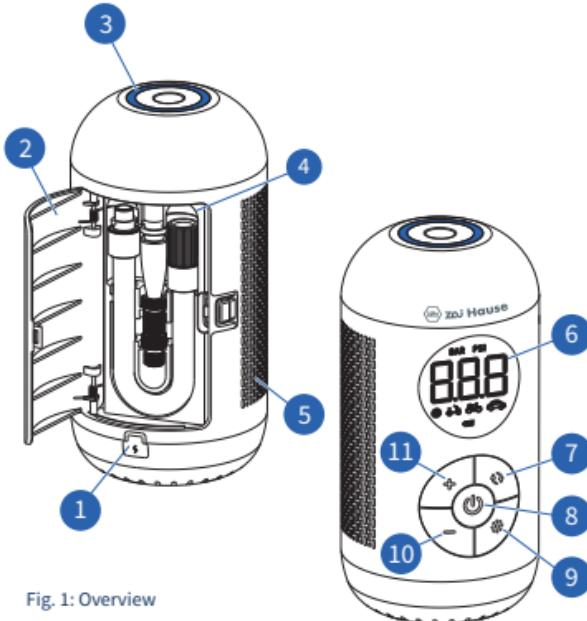
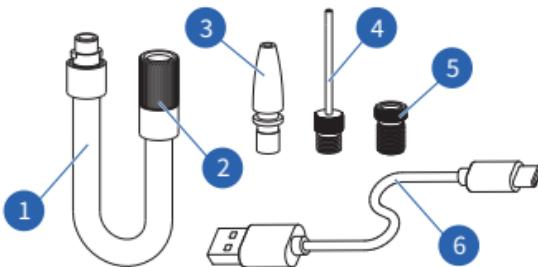

Fig. 1: Overview
Fig. 2: Accessories
Schrader valve (Fig. 2/②): The air pump can be directly connected to a schrader valve, e.g., for tires of cars, motorcycles, e-bikes or most mountain bikes.
Plastic nozzle adapter (Fig. 2/③): The plastic nozzle adapter is used, e.g., for various toys, air beds or rubber rings.
Needle valve adapter (Fig. 2/④): The needle valve adapter is used, e.g., for balls such as basketballs or footballs.
Presta valve adapter (Fig. 2/⑤): The presta valve adapter is used, e.g., for tires of bicycles or certain mountain bikes.
1. Insert the charging cord (Fig. 2/6) into the charging socket (Fig. 1/1) and ensure that it is fully connected (Fig. 3).
The battery level indicator on the display (Fig. 1/**6**) has different colours to indicate the air pump's remaining battery level.
1. Open the backside lid (Fig. 1 / ②).
2. Take the air hose and the air valve adapter out of the case (Fig. 1 / ④).
- › On the top of the tool, there is a ring LED light (Fig. 1 / ③), which can be switched on/off.